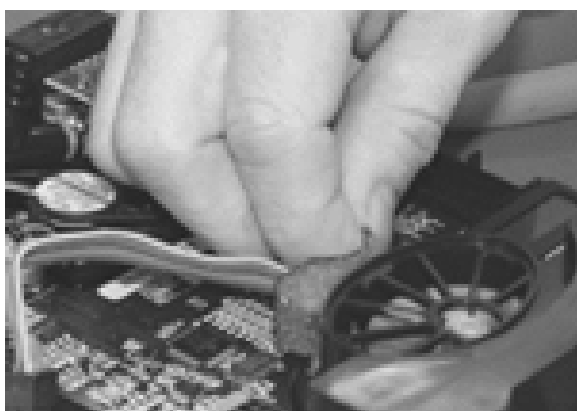

Figure 13.2: Foam Removal
5. Remove and discard foam from the top of the oval opening. (See Figure 13.2)